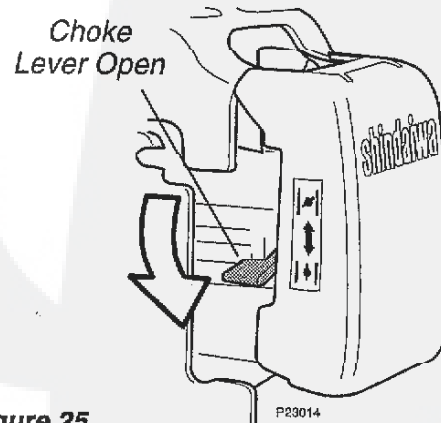

Figure 25
Open the choke by moving the choke lever down. See Figure 25.
3. Open the choke (Figure 25) and fully depress the throttle lever with your left hand, then pull the starter handle rapidly with your right hand to clear excess fuel from the combustion chamber.